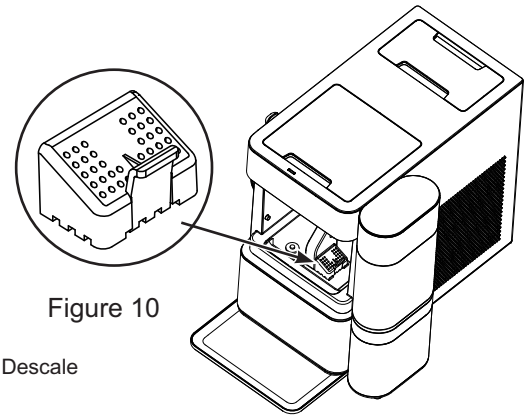

Figure 10
- Install filter (if present) and install diverter. (Figure 10)